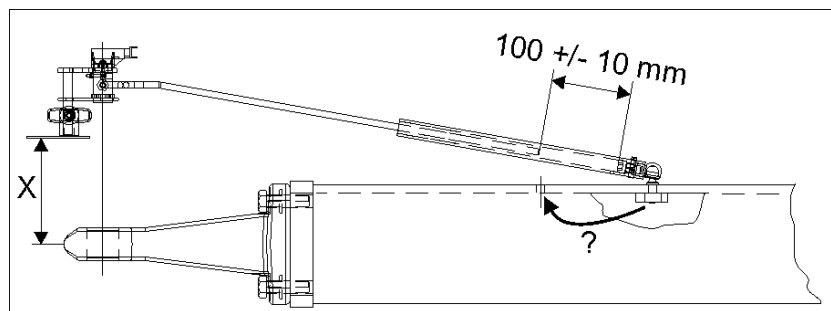

Fig. 133
The adjustable track widths depend upon the wheel assembly (Fig. 133):
5. Push in or pull out the axle halves to the desired position. Hereby determine dimension x from the outer edge of the base frame (Fig. 133/1) to the middle of the sprayer wheel and push in or pull out the axle halves respectively.